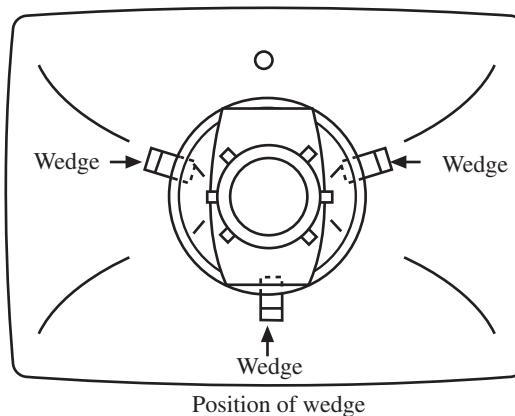

Fig. 1-9
- (1) Shake the deflecting yoke up, down to the right and left, and adjust any discrepancies in the screen's surroundings.
- (2) Insert wedges in three locations in the gap between the deflecting yoke and the surface of the CRT funnel in order to secure the deflecting yoke. (Refer to Fig. 1-9)